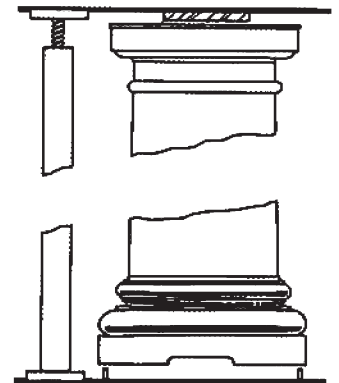

FIGURE 7-5
2. Raise up the soffit sufficiently to allow the assembly to slide in and over the pins on the deck and under the block on the soffit (Fig. 7-5)